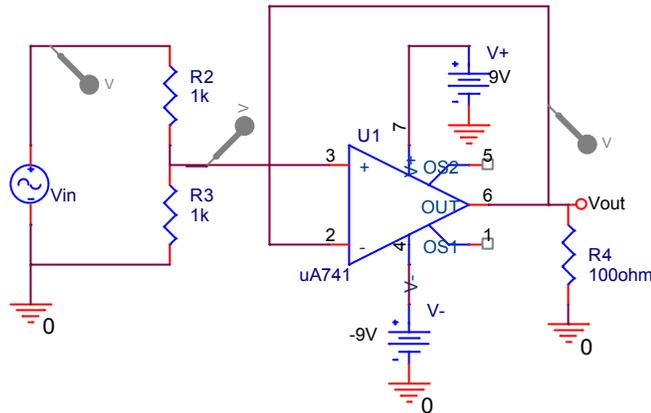

Figure B-3.
- Modify the circuit you created by adding an op-amp voltage follower between R3 and R4, as shown in Figure B-3 on the next page: